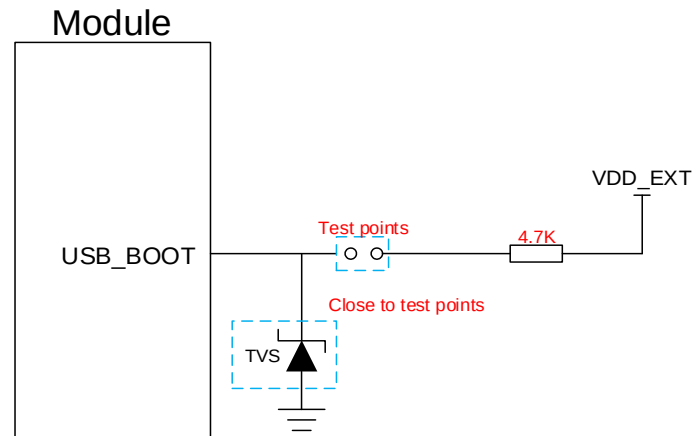

Figure 31: Reference Circuit of USB_BOOT Interface
3. If you need to manually force the module to enter download mode, directly connect the test points shown in **Figure 31**.